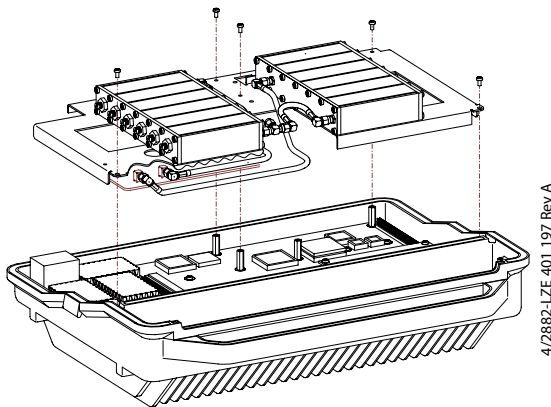

Figure 10 Removing filter modules with metallic plate.
4. Unscrew all screws needed to remove the large metallic plate with the filter modules as per Figure 10.